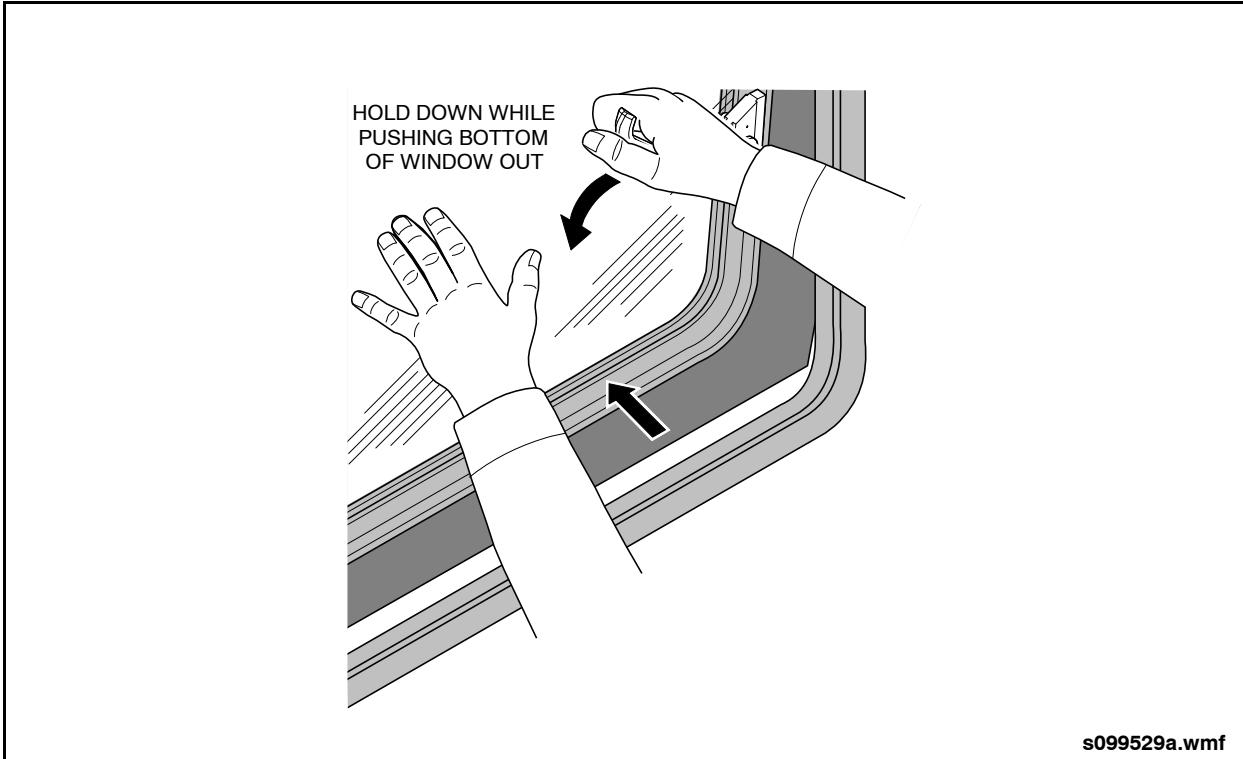

Fig. 14-8: Side Emergency Window Operation
1. Pull the red emergency handle down and hold it in this position. See "Fig. 14-8: Side Emergency Window Operation" on page 10.